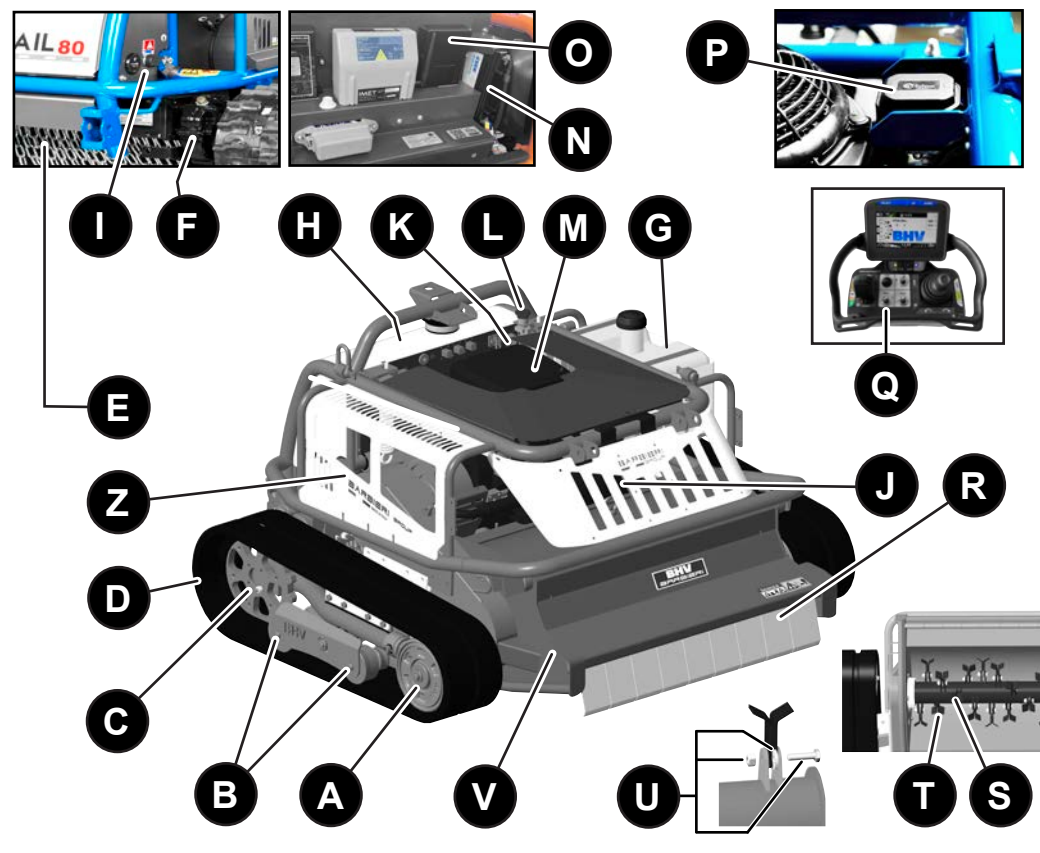

Fig. 7
4.1 NAME OF MAJOR COMPONENTS (Fig.7)
The engine is equipped for a filter for the inlet air. In the case of dry grass and congested areas, the air filter must be cleaned very often (every 2 hours). If dry blades of grass stick to the automatic openings of the engine's power generator (Fig. 7 - J), it is very likely that they are also in the air filter, which must be cleaned. (see Section 7.1.2). A clogging of the air filter can lead to a loss of engine performance. The filter should be cleaned daily under normal conditions.
To switch off the engine, press the red alarm button at any time (Fig. 10 (O)). The engine suddenly stops. Shortly after stopping, remember to release the alarm switch in its normal position. The engine can also be switched off by the alarm button on top of the machine (Fig. 7 (L)), by turning off the star key (Fig. 7 (I)) or anytime the radio connection with the remote control is interrupted